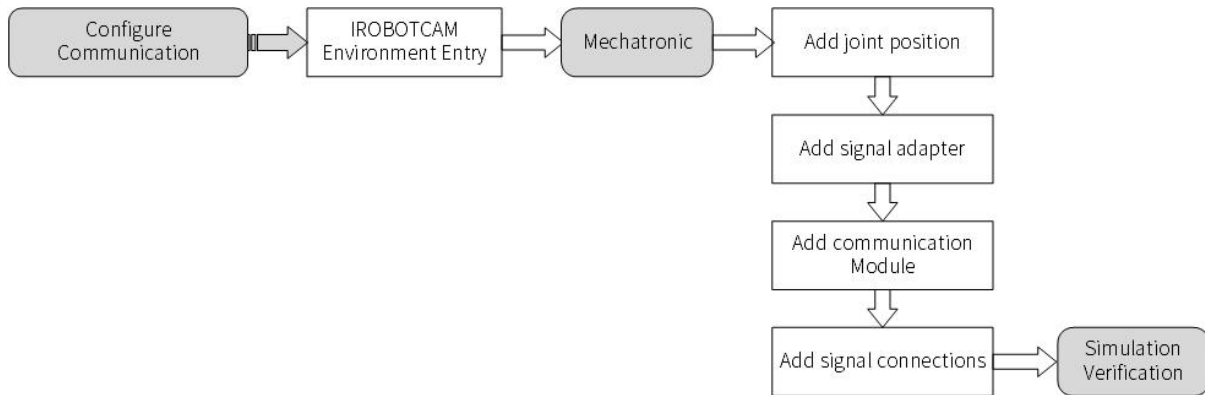

Figure 12-1: Flow chart of configure communication
Connecting iRobotCAM Model to External Controller.(Figure 12-1)
- Open iRobotCAM project file "Configure Communication.Z3" to enter the iRobotCAM environment. (Figure 12-1)